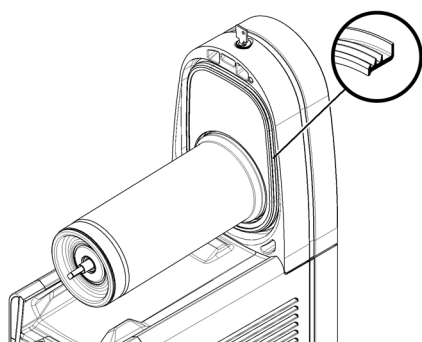

figure 17
N.B. the rim with the greater diameter must be rested on the rear wall (see figure 17).